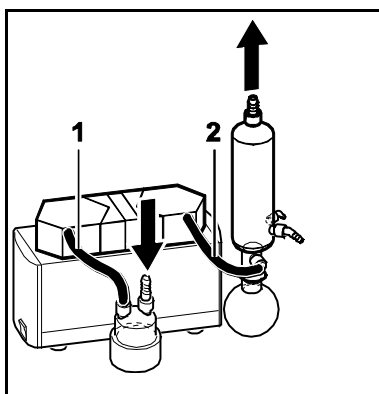

Fig. 15: Tubing system SH
2	Tubes (see fig. 15) <ul style="list-style-type: none"> <li>▪ Resistant to the medium employed</li> <li>▪ Inside diameter 10 mm</li> <li>▪ Length: (1) approx. 150 mm, (2) approx. 220 mm</li> </ul>